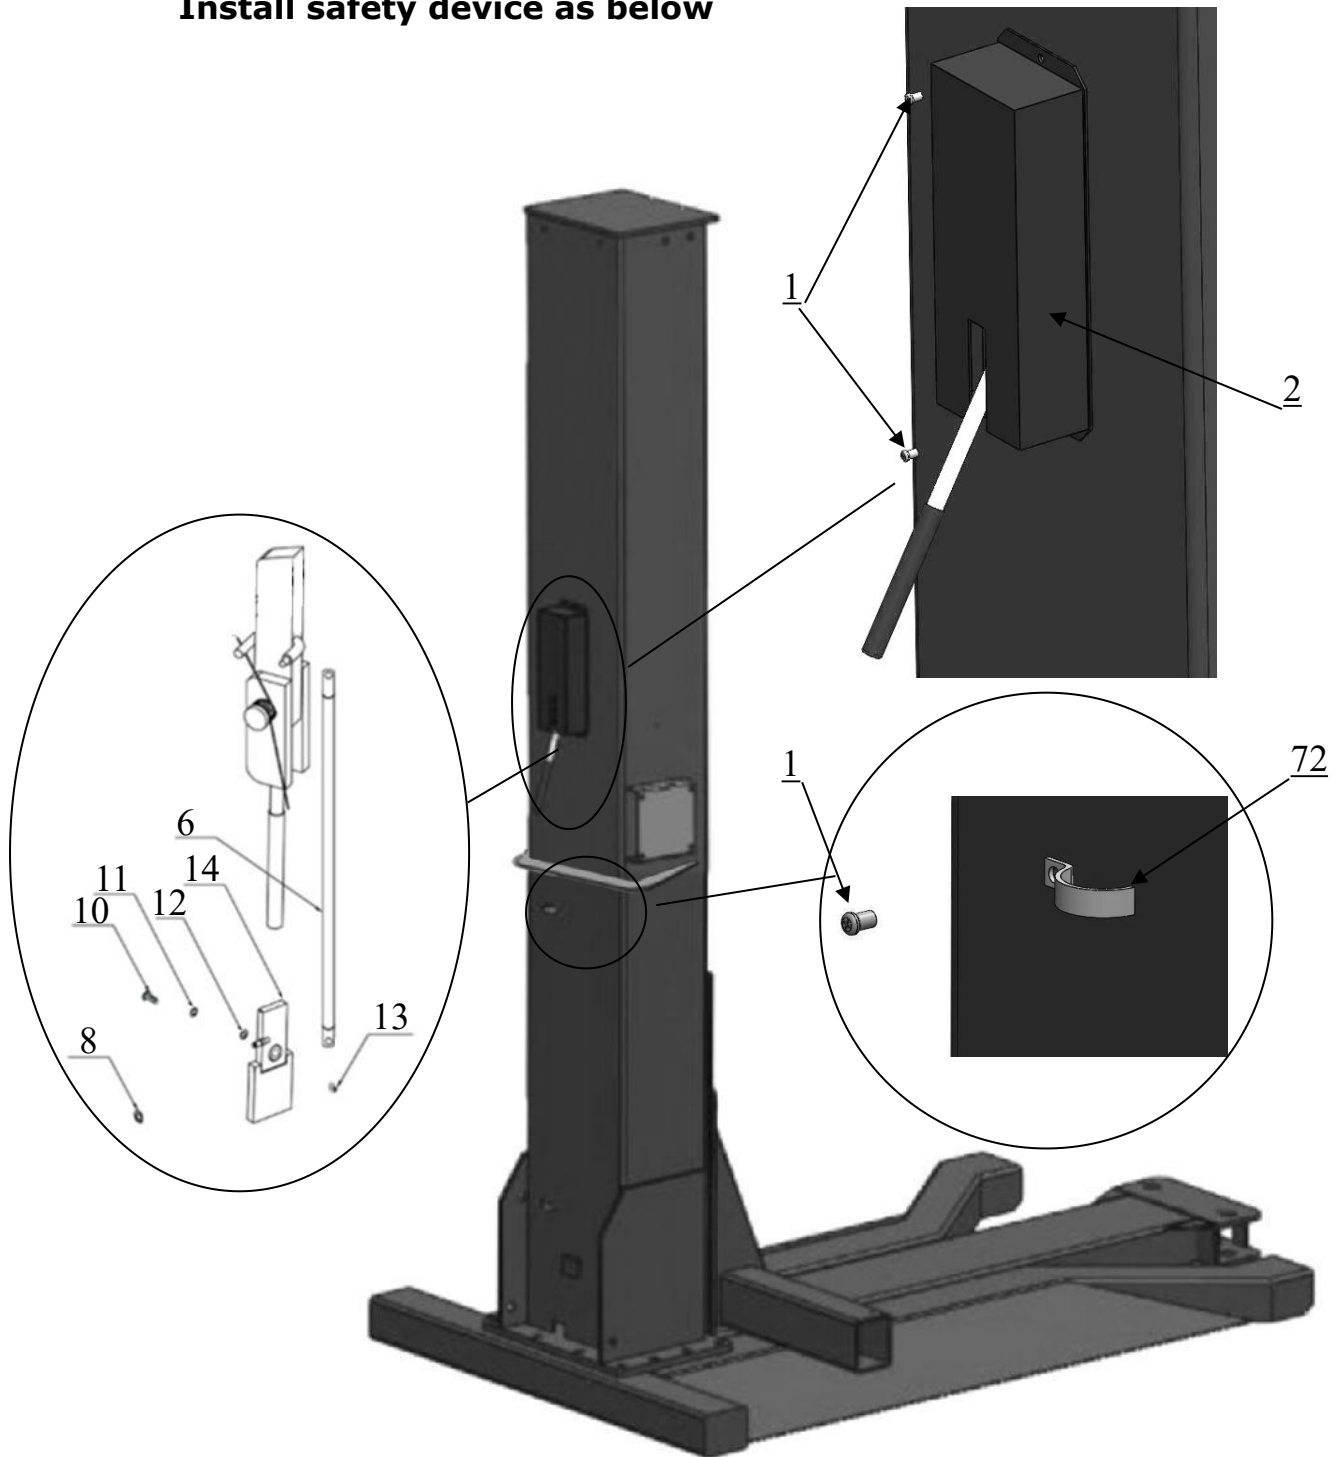

Fig.13
**D. Install cover of the safety device, retainer and protective cover (See Fig.13)